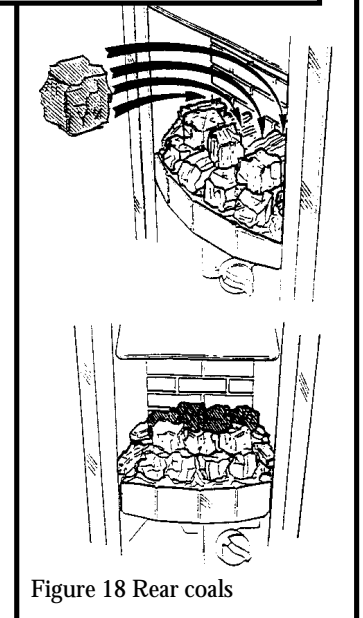

Figure 18 Rear coals
7.3.4 Place the four remaining coals along the back ceramic wall. See figure 18.